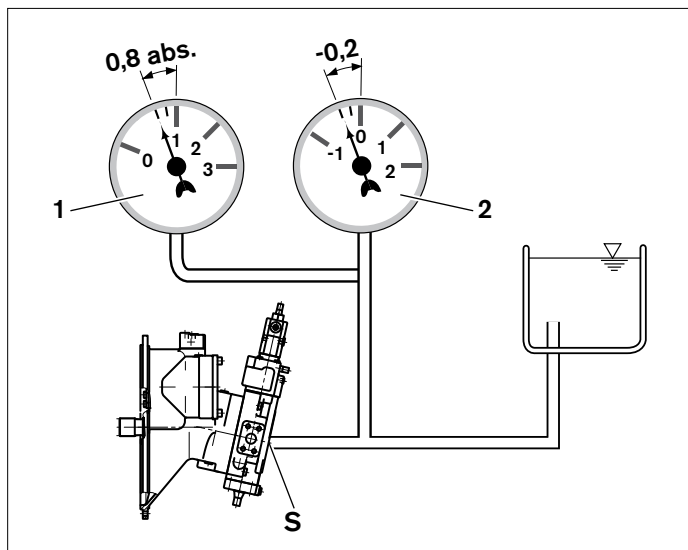

Fig. 8: Suction pressure
- ▶ Make certain that a minimum suction pressure of 0.8 bar absolute is present at port "S" during operation in all installation positions and installation locations for the axial piston pump, see Fig. 8. See data sheet for additional values.